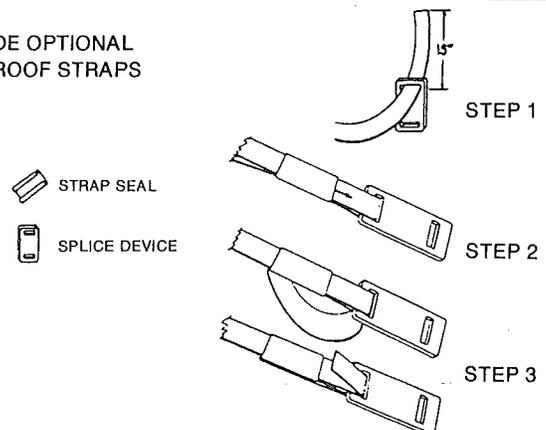

FIG. 11
6. For double wide homes See Fig. 11 for the splice connection at the centerline.
**NOTE: WHERE OPTIONAL OVER-THE-ROOF STRAPS ARE PROVIDED SPLICE THE STRAPS TOGETHER AT THE RIDGE BEAM WITH AN A.B. CHANCE SPLICE DEVICE AND STRAP SEALS (NOT PROVIDED). SEE FIG. 11.**
Over-the-roof straps, if provided, are to be connected to ground anchors in the same manner as single wide homes (See page 12, and Fig. 11).